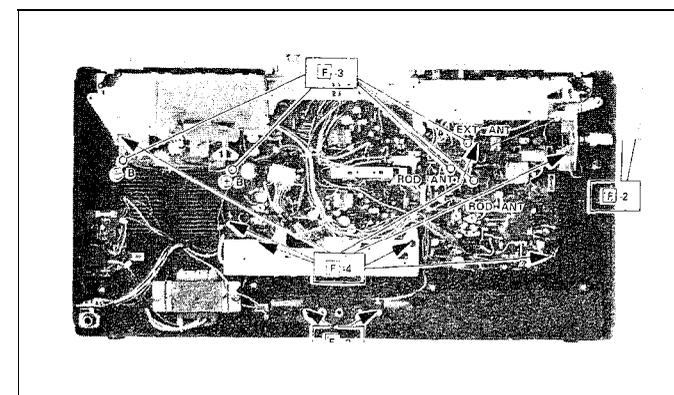

Figure 5
- E PHONO JACK PLATE REMOVAL** (Refer to Figure 5)
2. Remove two (2) screws retaining the phono jack plate.
- F CHASSIS (P.W.B.) REMOVAL** (Refer to Figure 5)
2. Remove two (2) knobs (tuning and fine tuning).
3. Disconnect three (3) tips (Antenna) and two (2) tips (DC supply) connected to the main P.W. board.
4. Remove seven (7) screws retaining the chassis (P.W.B.).